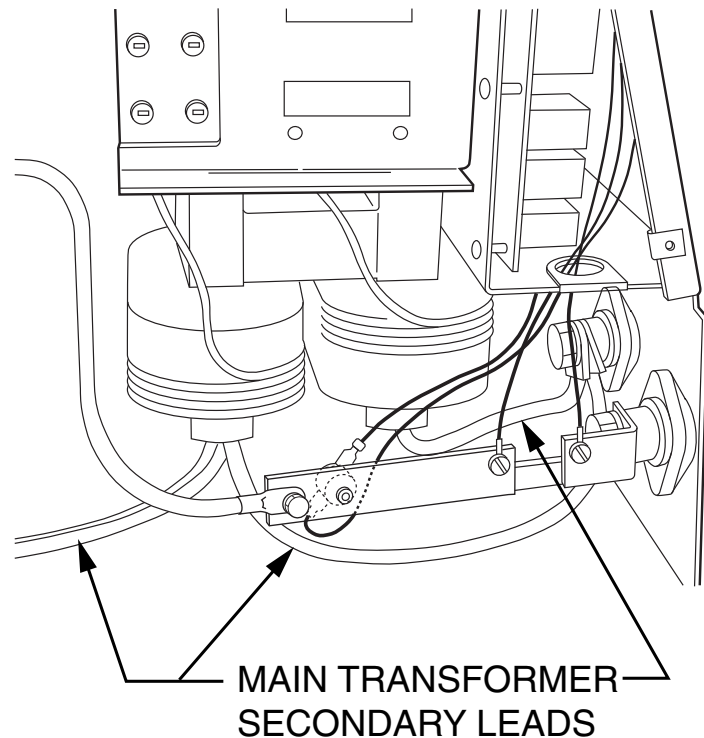

Figure F.21 Main Transformer Left Side
5. Locate main transformer and associated secondary leads, reactor leads, and shunt connections. See *Figure F.21*.